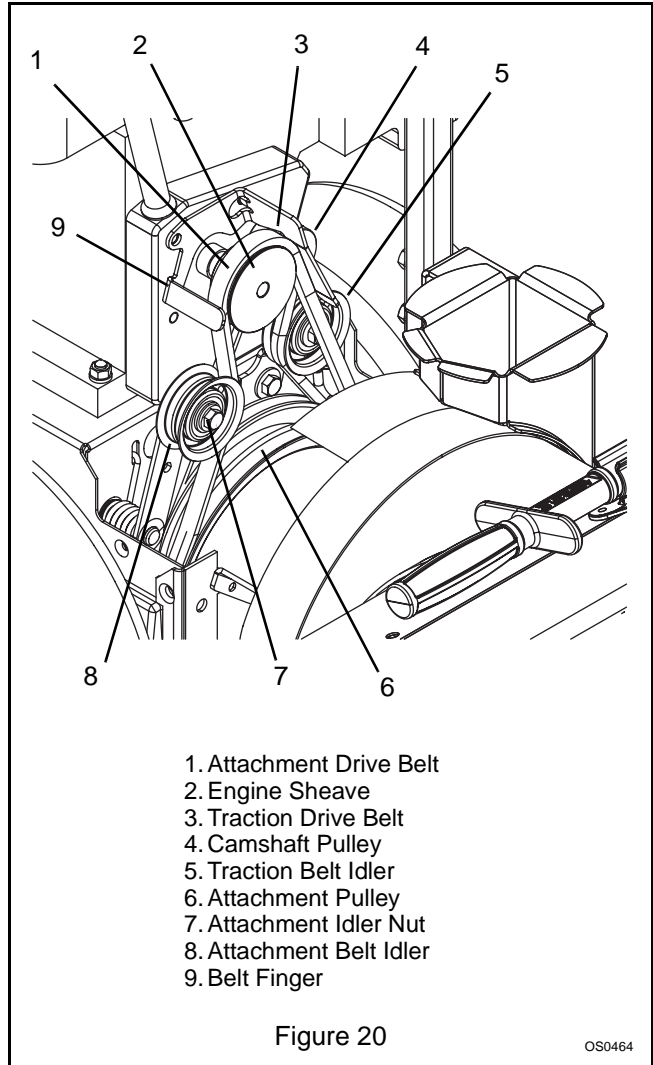

Figure 20
4. Remove belt finger by removing cap screw mounting belt finger to engine (Figure 20).
- a. Loosen attachment idler nut (Figure 20).